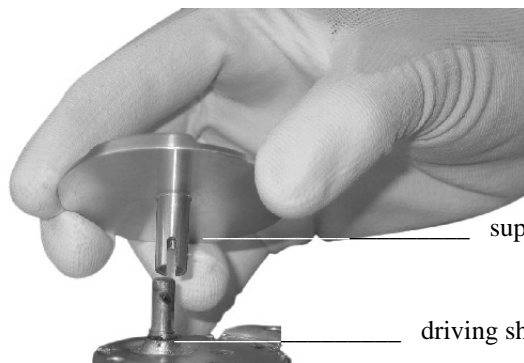
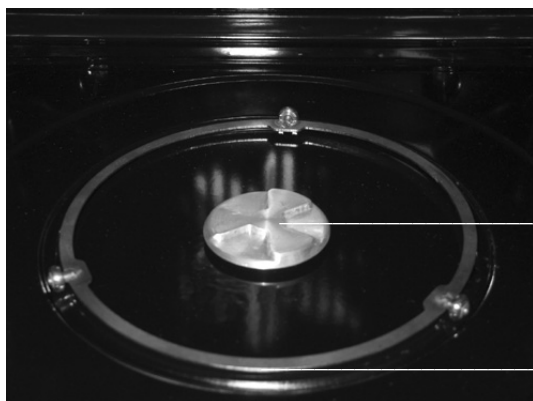

Fig. 2
Fig. 3
- a support for the turning plate (fig. 3), which has to be fitted on the flange (fig. 2);
- a round external support for the turning plate (fig. 3), to be placed on the corresponding guide on the oven bottom (fig. 1).